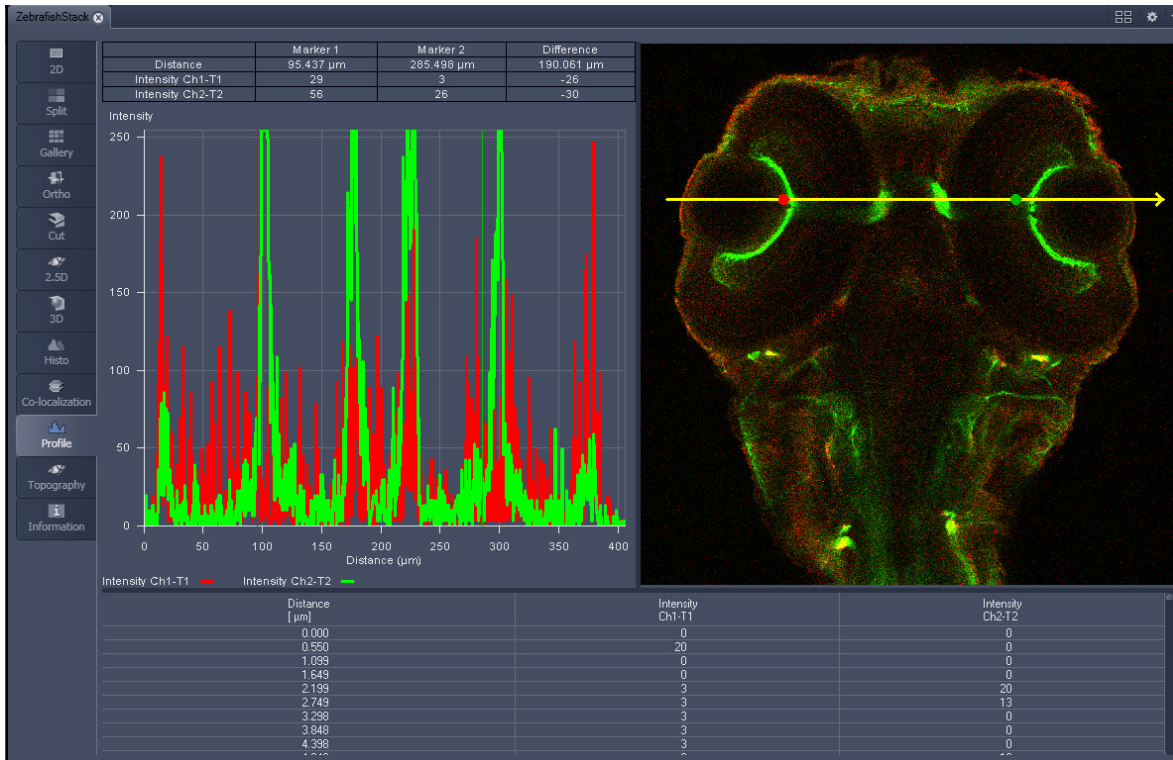

Fig. 6-63 Image Display - Profile View, Line Profile with markers
- Draw a Profile line in the image display to define a profile. The intensity curves are shown in a separate graph (see Fig. 6-63).